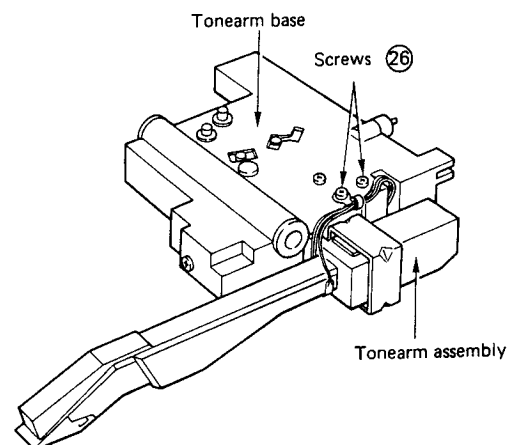

Fig. 20
- 1) As shown in Fig. 20, remove the two screws (26), and then remove the tonearm from the tonearm base.